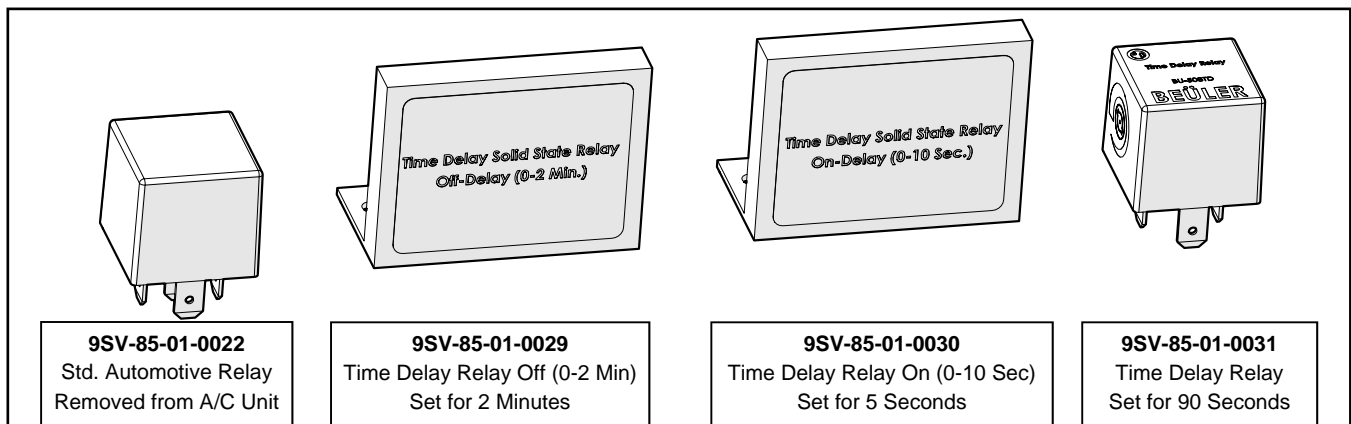

Fig. 2.12b (Relay Guide)
- 2.11** Install 2 relays into the A/C unit. See Relay Guide in Fig. 2.12b below for assistance identifying each relay.